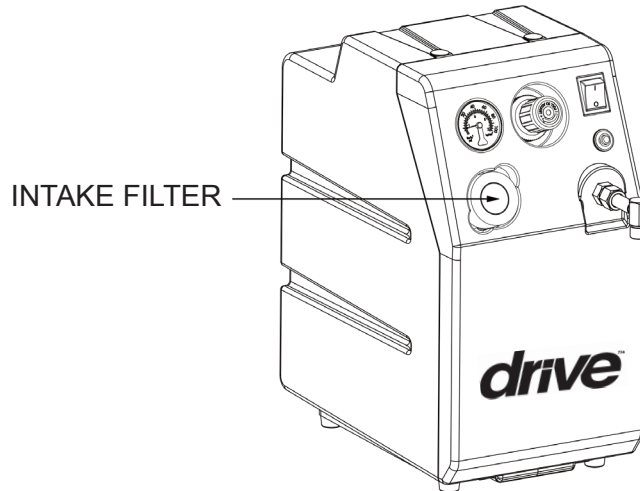

FIGURE 2
A. REPLACING AIR INTAKE FILTER (FIGURE 2)